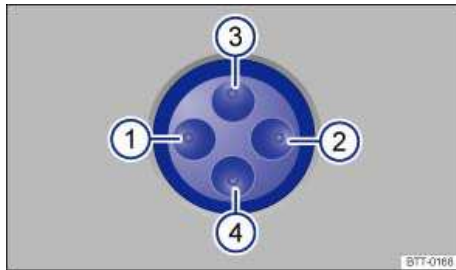

Fig. 44 Lumbar support control.
**Press fig. 44 switch for each area:**
(1) or (2)	Adjust lumbar support. (1) inflates, (2) deflates.
(3) or (4)	Adjust lumbar support height. (3) moves the lumbar support up, (4) moves the lumbar support down.